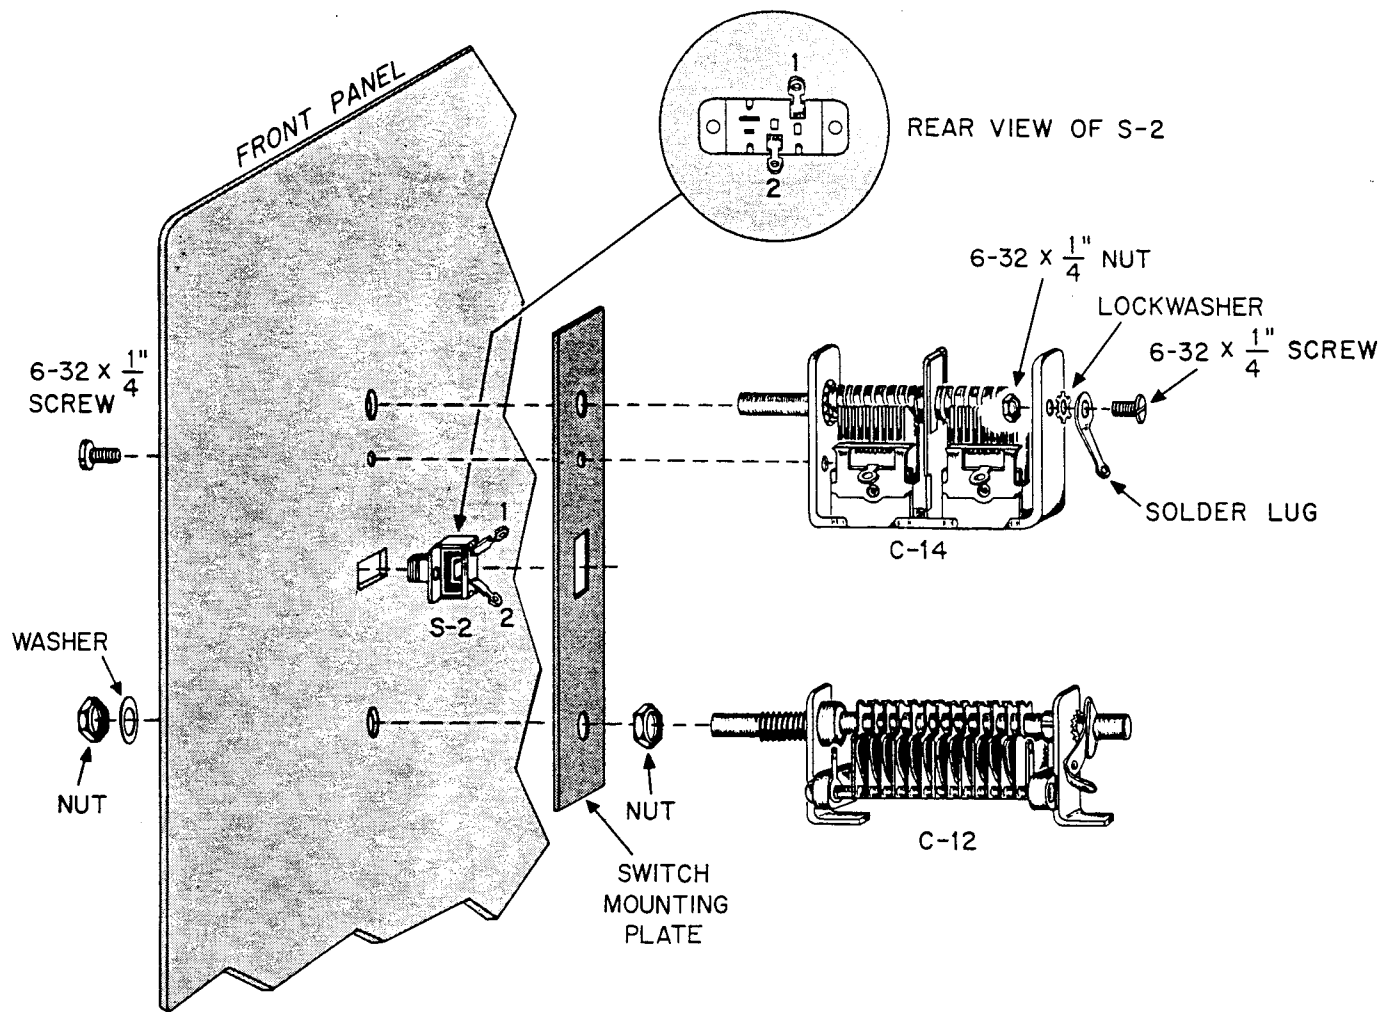

FIGURE 7. HOW TO MOUNT C-14, S-2 AND C-12
- Study Figure 7. Mount C-14, C-12, S-2 and the switch mounting plate as shown in Figure 7. Note that the terminals of S-2 are positioned toward the center of the chassis.
- Mount a solder lug on the back of C-14 using a lockwasher, one 6-32x $\frac{1}{4}$ " screw, and a matching nut. See Figure 7 for the location.